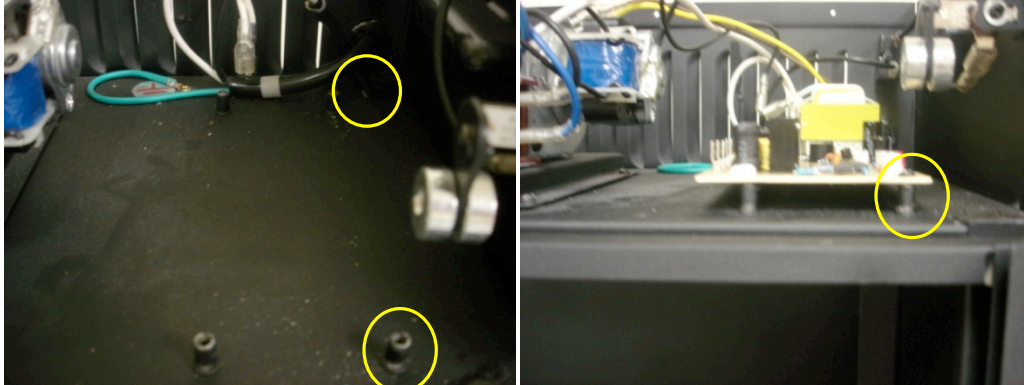

Figure 2
- 4) Use the (2) welded standoffs located on the right hand side. Mount the PCB using (2) of the fasteners from step 3. **Refer to Figures 2 and 3.**